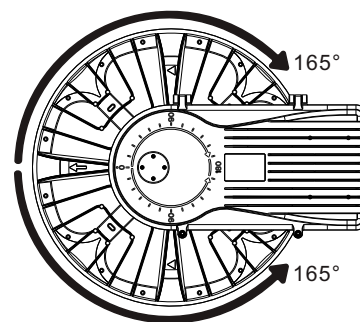
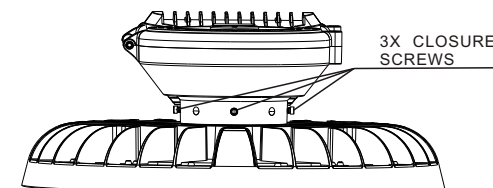

Figure 4
Figure 5
- The direction of light projection can be adjusted by turning the radiator (165° left and right) Figure 4. Before turning, you need to loosen the three screws shown in Figure 5, and then tighten the screws after adjusting the projection direction.